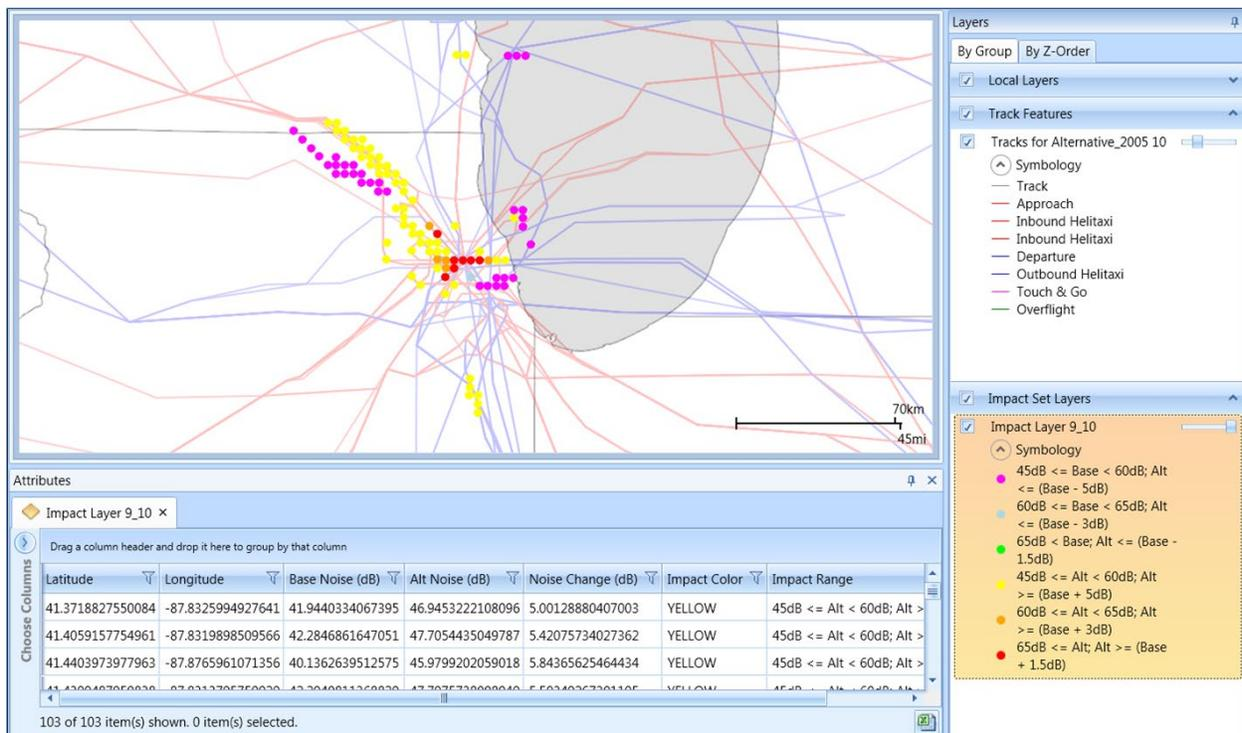

Figure 5-48 Sample Impact Set Layer with Attributes – Shown with Tracks
3. The Impact Set Layer is displayed on the map (Figure 5-48) and in the *Layers* manager.
The following attributes are available for Impact Set Layers: latitude, longitude, base noise, alternative noise, change in noise, impact color, and impact range (Figure 5-48). See Appendix B.3 for descriptions of the attributes.